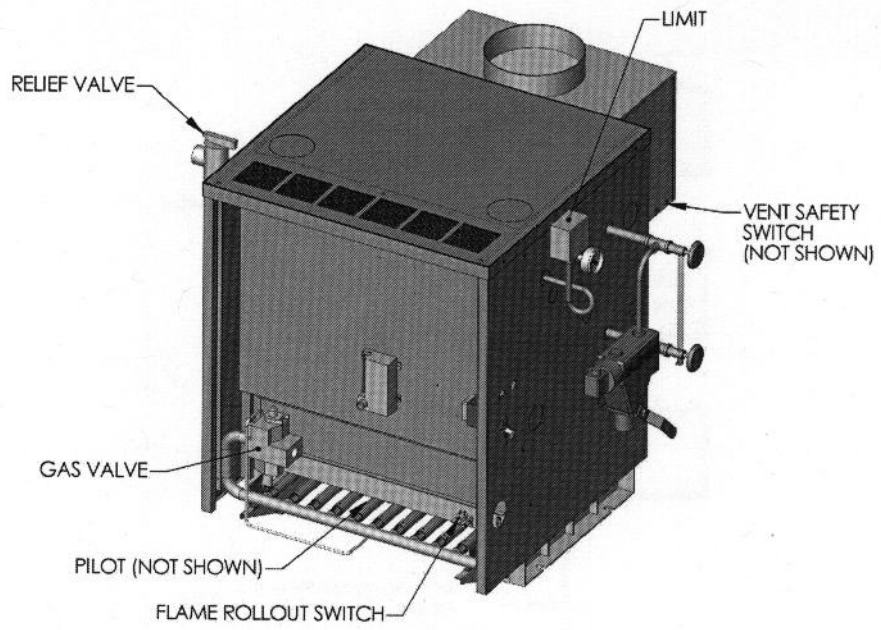

Figure 1: Control Location
- B. Control Locations.** See Figure 1 for Control and Safety Device Locations.